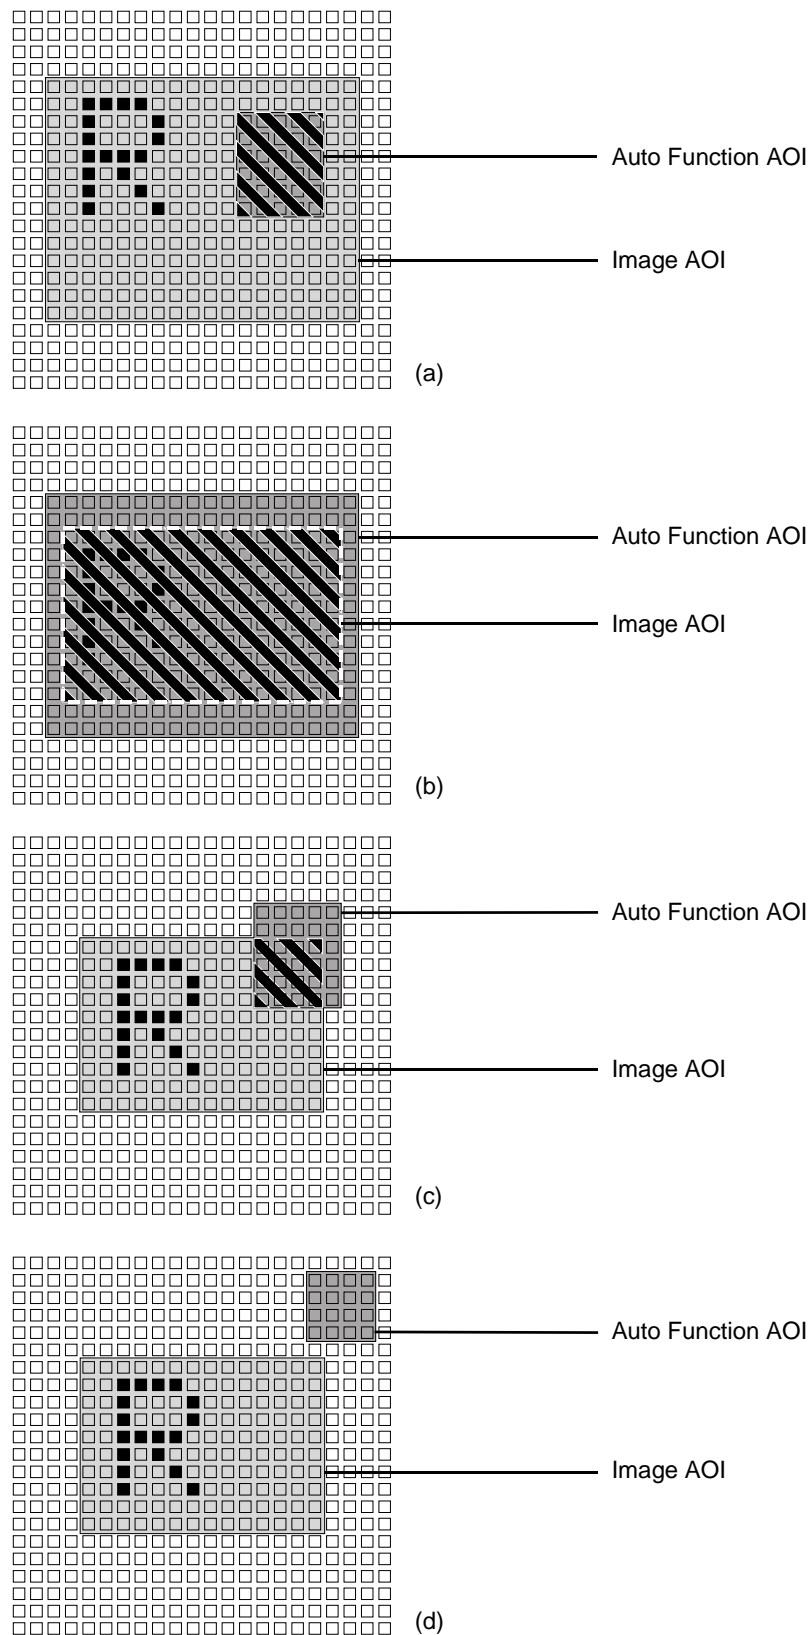

Fig. 42: Various Degrees of Overlap Between the Auto Function AOI and the Image AOI
Different degrees of overlap are illustrated in Figure 42. The hatched areas in the figure indicate areas of overlap.
- If the Auto Function AOI is completely included in the Image AOI (see (a) in Figure 42), all pixel data from the Auto Function AOI will be used to control the image property.
- If the Image AOI is completely included in the Auto Function AOI (see (b) in Figure 42), only the pixel data from the Image AOI will be used to control the image property.
- If the Image AOI only partially overlaps the Auto Function AOI (see (c) in Figure 42), only the pixel data from the area of partial overlap will be used to control the image property.
- If the Auto Function AOI does not overlap the Image AOI (see (d) in Figure 42), the Auto Function will **not** control the image property. For details, see the sections below, describing the individual auto functions.